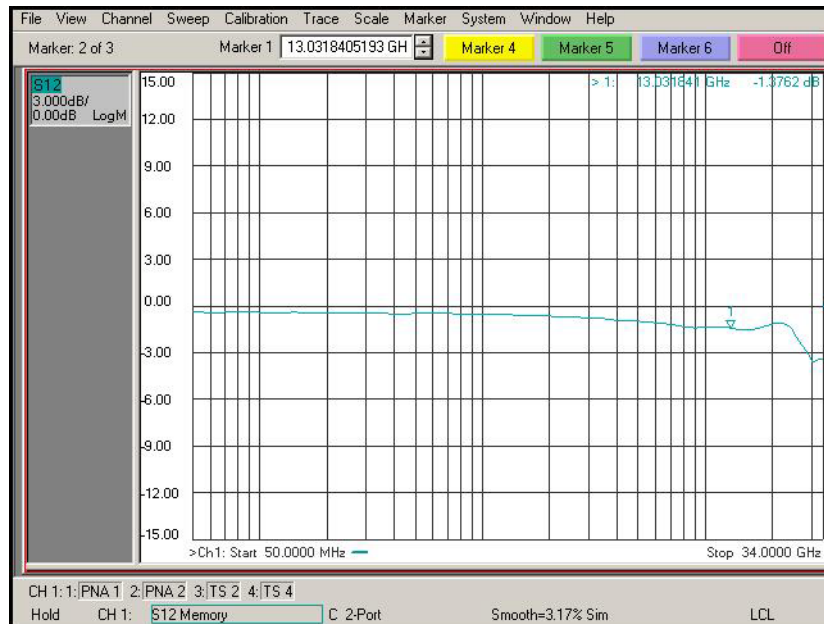

Figure 95 De-Embedded V_{in} Trace
- 10 Trigger the VNA to perform a single sweep. Press “Trigger” under Channel Setup, and then the green soft-key for “Single”. Display should look like **Figure 95** on page 123. If it looks noticeably different, the probe tip wires may not be making contact under the pincher.